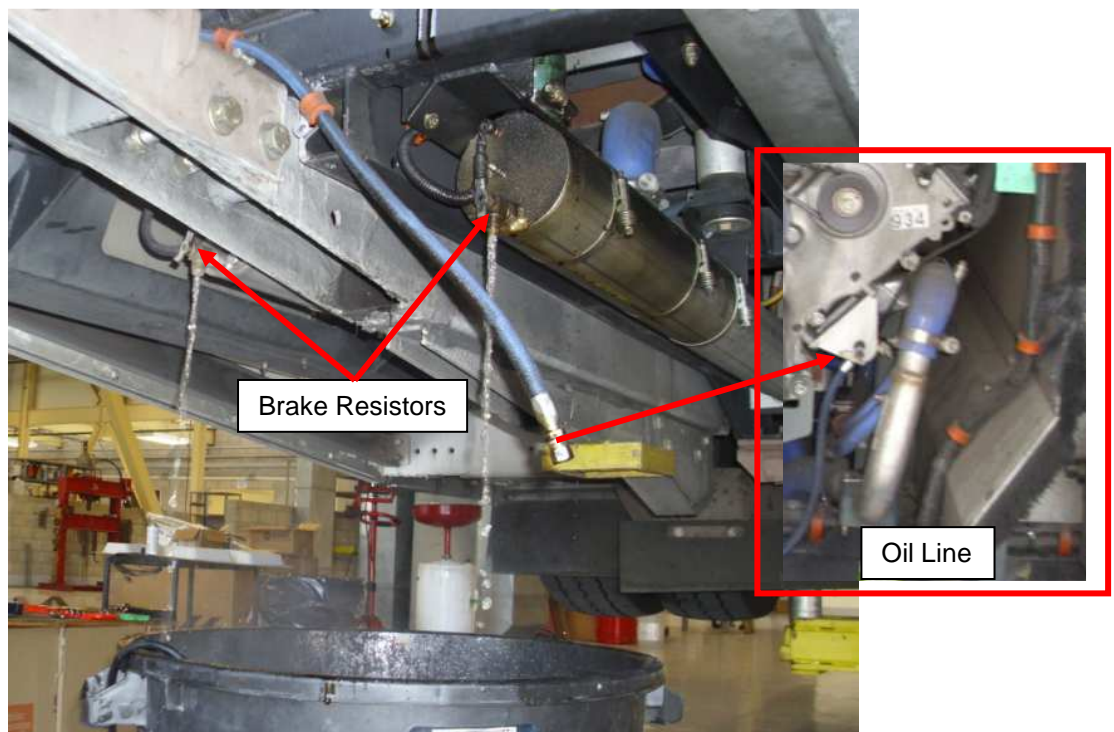

Figure 2: Draining Coolant and Oil Line Removal
- b. Disconnect the oil gauge line; ensure a container is placed to keep the residual oil from spilling onto the floor. Using a separate clean container, drain all the coolant from the engine by opening the drain valves on the brake resistors. Close drain valves once coolant is drained. Ensure the oil does not mix into the coolant if there are plans to re-use. See Fig 2.